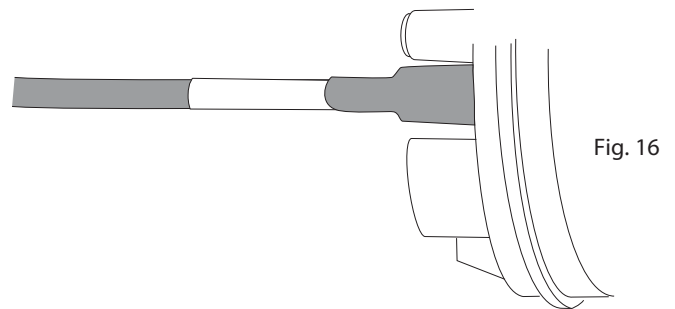

Fig. 16
8. Continue heating the remainder of the tube as evenly as possible until it has completely conformed to the cable. (Figure 16)